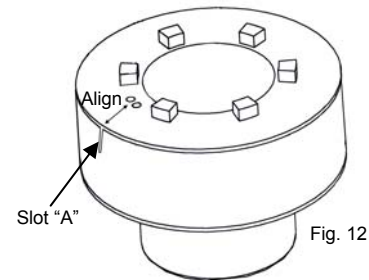

Fig. 12
3. Orient the two (2) holes on the bottom of the hub with Slot "A" on the line retainer. (Fig. 12)